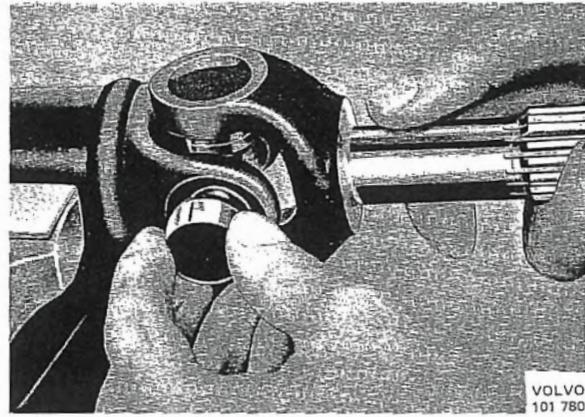

Fig. 4-123. Installing spider
2. Insert the spider in the flange yoke. Push over the spider in one direction so far that the needle bearing can be fitted onto the trunnion, see Fig. 4-123. Then press in the needle bearing so far that the snap ring can be fitted. Use a drift with a diameter slightly less than that of the needle bearing sleeve.